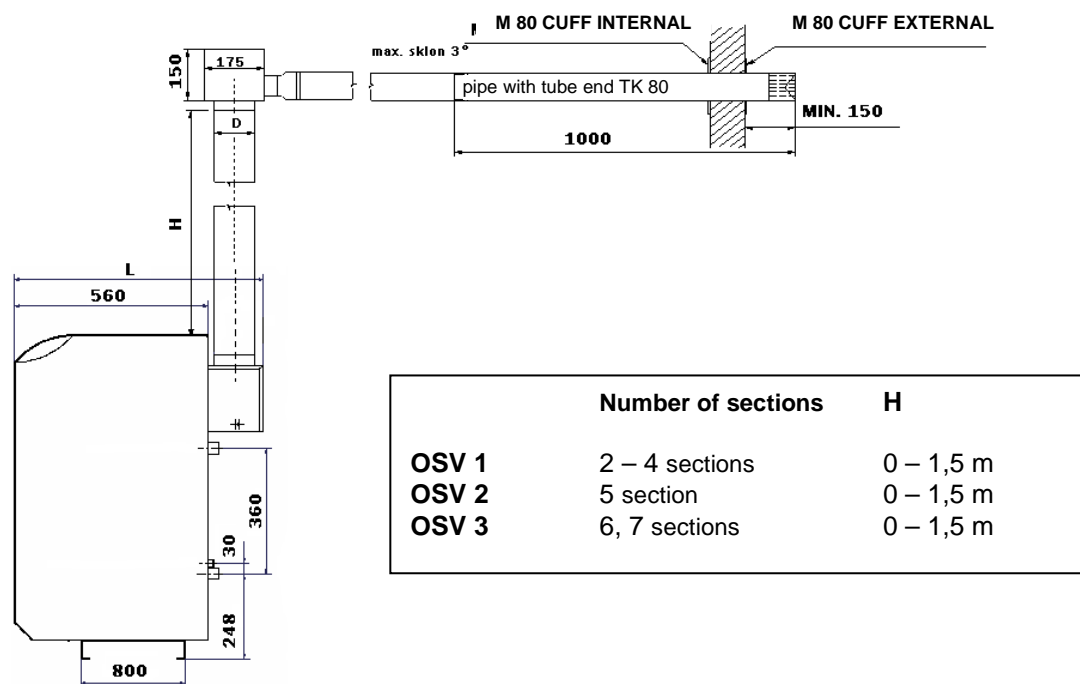

Fig. no. 15 Combustion products venting in a direct design
We recommend to use the variant according to Fig.no.15 if the boiler is designed in the way making sure it observes the max. height $H = 1,5$ m and calculations according to tab. no. 9. This design has a minimum pressure loss.
- Smoke-flue piping outfall protruding from the wall must be equipped with an end piece (see fig. no. 15,16)